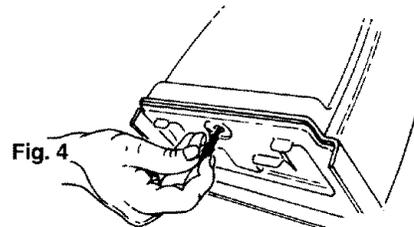

Fig. 4
1. Slide valve assembly into valve seat through opening in bottom of tank. **(Fig. 4)** Use a small amount of soap on seal to ease assembly.